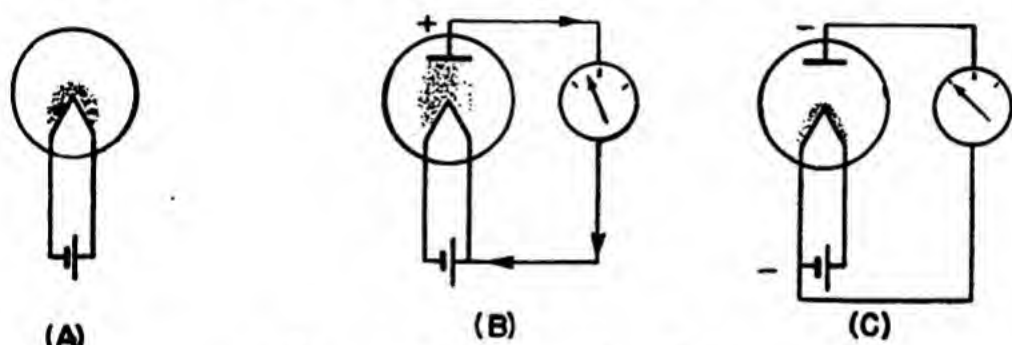

Figure 3.—Plate current in a diode.
Figure 3 (A) shows in diagram what happens when the filament is heated to incandescence. Heat increases the atomic activity of the filament, and you see represented the SPACE CHARGE, that cloud of electrons which, swarming around the filament, repels newcomers being emitted.
Figure 3 (B) illustrates the electronic rush to the positively charged plate. You see a battery in the circuit from the plate to the filament, the plate connected to the positive terminal of the filament. This gives the plate a positive charge.
Now reverse the battery connections as in figure 3 (C). Here the plate is connected to the neg-